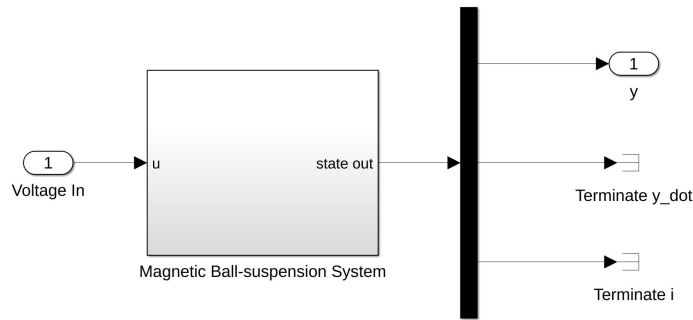

Figure 2: The high-level Simulink model
2. You are now going to implement your state model in Simulink. You will begin by creating the block diagram depicted in Figure 2. Open the Library browser of Simulink and look at the **Commonly Used Blocks**. Using the following blocks:
create a diagram identical to the one in Figure 2.
- Create your linearized model in Simulink. A simple way to do this is by modifying the Fcn blocks in Figure 3 to get the linearized model. The high level model will still look identical as in Figure 2. The two equations in Fcn blocks are corresponding to the  $A$  and  $B$  matrices you have obtained in Step 3. Save the new SIMULINK model as `magball_linear`. Then use Step block as the input source and place a Scope block to display the position  $y$  during the simulation. Set the simulation stop time to be 2s and run the simulation. Save your plot as a `.png` file with the name `sim_3.1.png`. Attach the file `magball_linear.slx` as part of your submission.